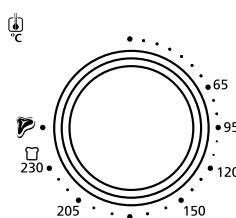

Figure 1
- 2. Temperature Selector/Function Selector Knob** – Adjust the thermostat dial to the desired temperature. Select cooking function by turning knob to desired setting. (See Figure 1)